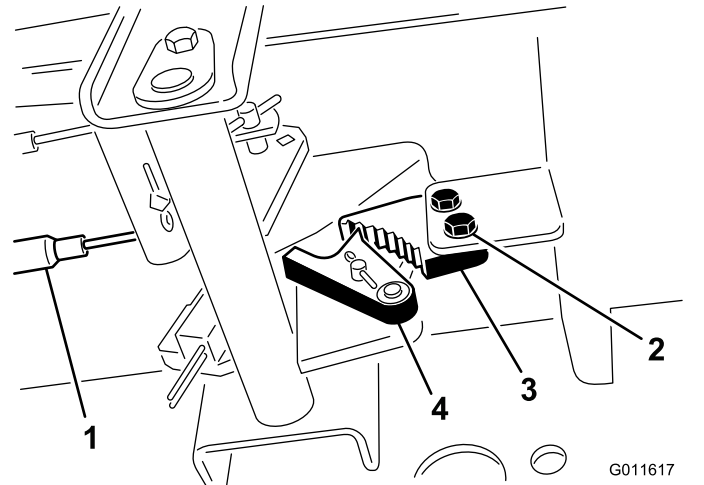

Figure 97
1. Loosen the 2 screws securing the parking-brake pawl to the frame (Figure 97).
2. Press the parking-brake pedal forward until the brake detent completely engages on the brake pawl (Figure 97).